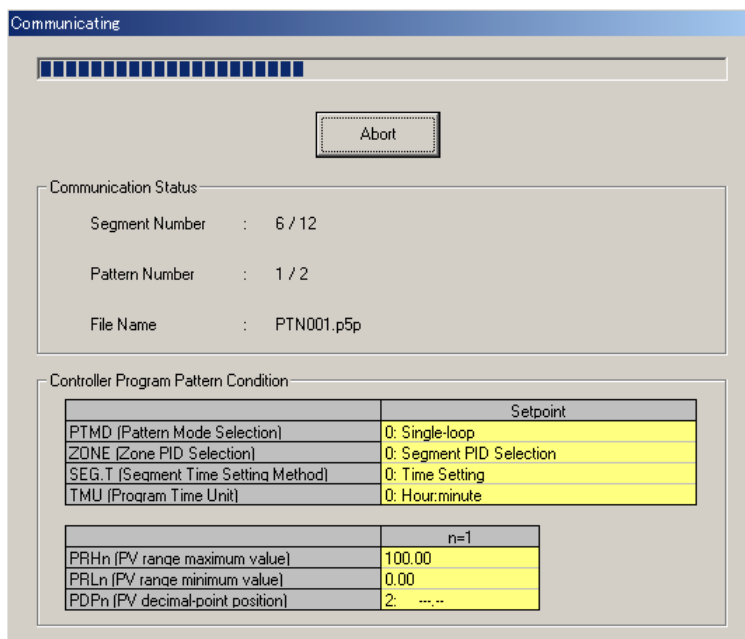

Figure 12.4.3 Communicating Dialog Box
- (5) After you set the communication conditions, click **OK**.
- (6) Following the instructions given by the message that appears, connect the controller.
- (7) When you are ready, click **OK**.
- (8) The Communicating dialog box (Figure 12.4.3) appears.